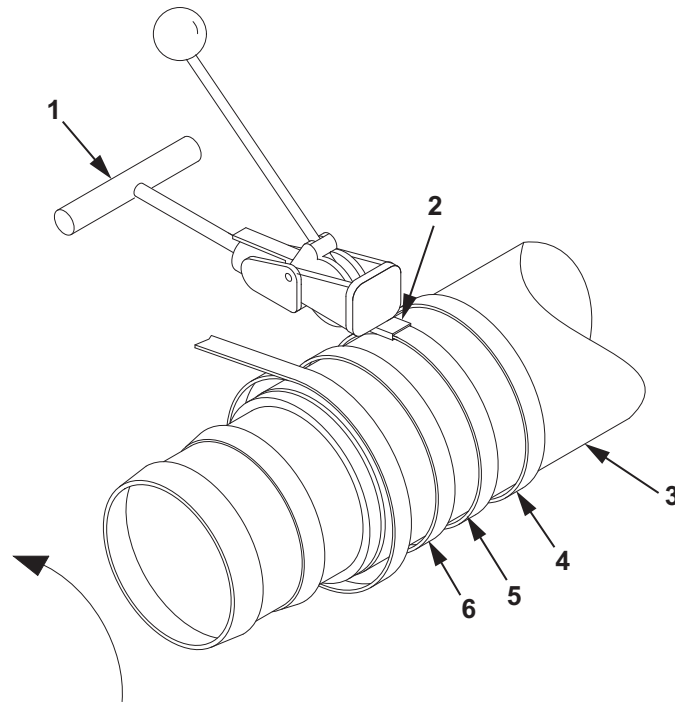

Figure 15. Hose Assembly Repair.
39. Position the third clamp (Figure 15, Item 3) on the hose assembly (Figure 15, Item 3) until it is positioned with a gap of 1/8–1/4 in. from the first clamp (Figure 15, Item 6).
40. Rotate the hose assembly (Figure 15, Item 3) until clamp buckle (Figure 15, Item 2) on the third clamp (Figure 15, Item 5) is oriented a minimum of 30° away from the clamp buckle on the second clamp (Figure 15, Item 4).
41. Using clamping tool (Figure 15, Item 1), tighten the clamp (Figure 15, Item 4) until almost flush with the hose assembly (Figure 15, Item 3) surface.